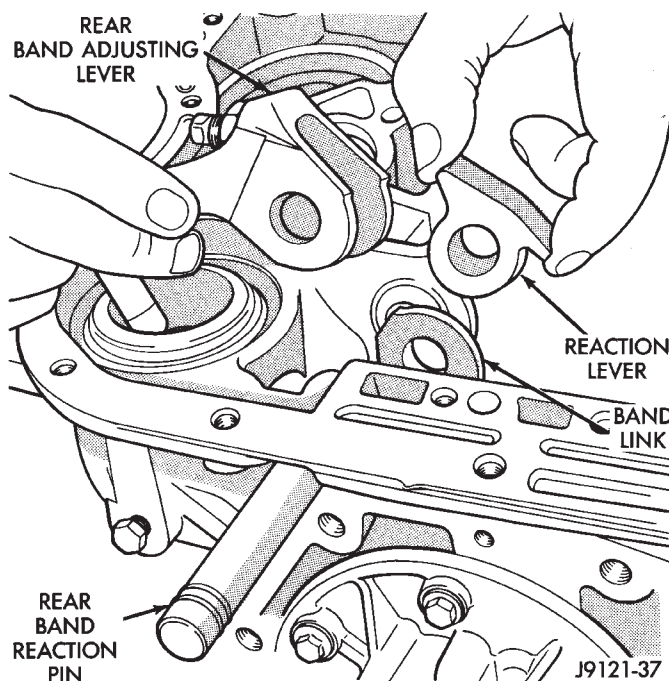
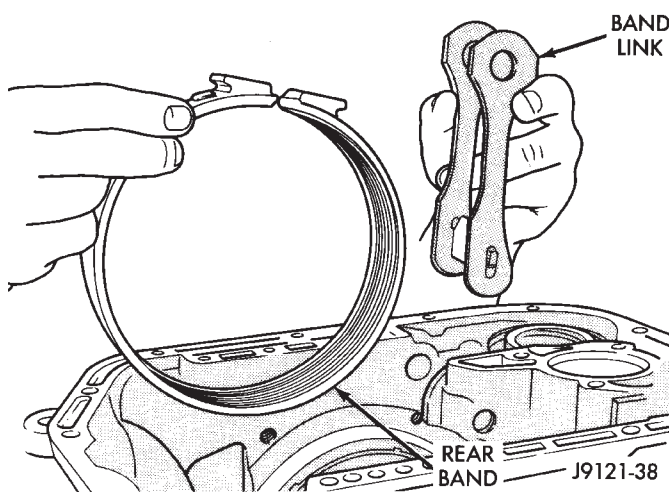

Fig. 33 Removing Rear Band Levers And Reaction Pin—46RH
Fig. 34 Removing Rear Band And Link—46RH
(34) Remove rear band adjusting lever, reaction lever and reaction pin (Fig. 33).
(35) Remove strut from rear band. Keep strut with levers and pin for cleaning, inspection and assembly reference.
(36) Remove rear band and link (Fig. 34).